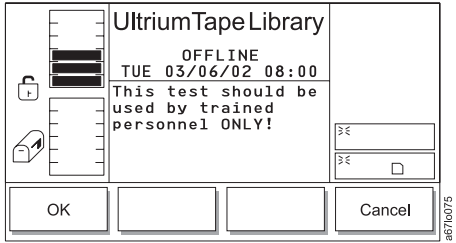

Figure 4-149. Step Dialog
5. Press the button below the **Step** softkey. The Step Dialog displays a reminder that this diagnostic should be used by trained personnel only (see Figure 4-149 on page 4-88).